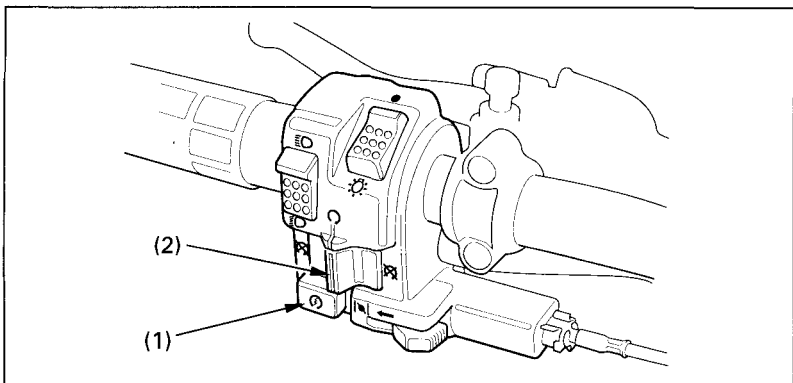

Fig. 2-7 (1) Starter button
The starter button (Fig. 2-7) is below the engine stop switch. To start the engine, press the starter button (1), with the transmission in neutral, the ignition switch I (ON) and the engine stop switch (2) at O (RUN).